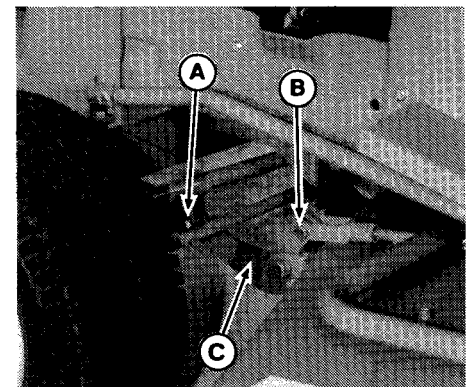

Figure 24B.
6. Lift the front of the mower and attach the mower hitch to the tractor hitch (J) using two pins and safety clips. See close-up view in figure 24B. Install the pins from the outside. It is easier to install the left-hand pin first.